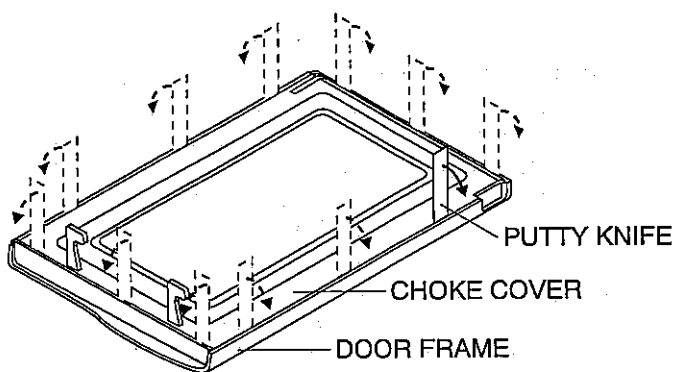

Figure C-5. Door Disassembly
3. Insert a putty knife (thickness of about 0.5mm) into the gap between the choke cover and door frame as shown in Figure C-5 to free engaging parts.
8. Remove the four (4) screws holding the door panel to the door frame.
9. Release door panel from six (6) tabs of door frame by sliding door panel downward.
13. Remove the two (2) screws holding the glass stopper to the door frame.